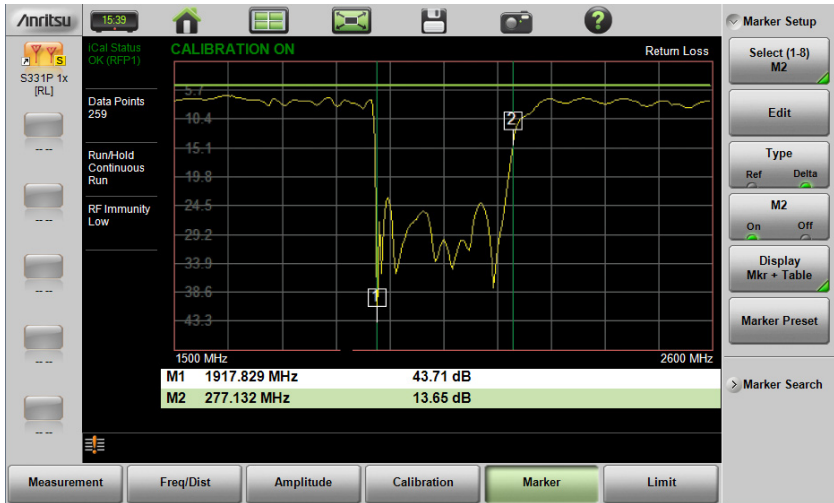

Figure 3-30. Delta Marker 2 and Marker Table
4. Markers 2 through 8 can be set as deltas to a reference marker. Use the **Type** key to set the marker type as **Reference** or **Delta** marker. Figure 3-30 on page 3-38 illustrates using a delta marker to estimate the passband of a filter.